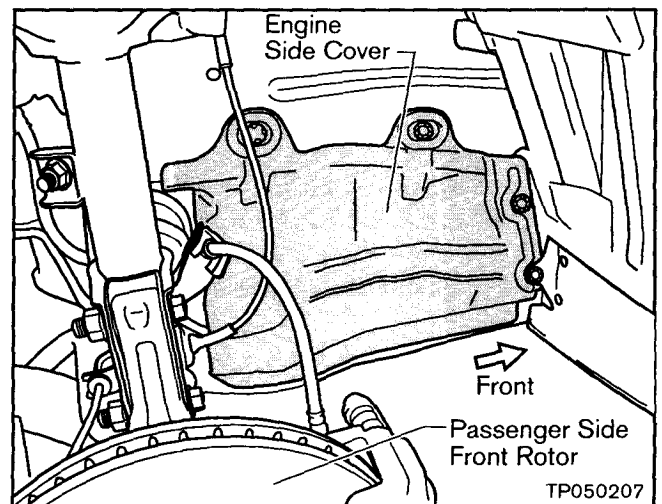

Figure 5
3. Remove the Engine Side Cover (passenger side, front). See Figure 5.